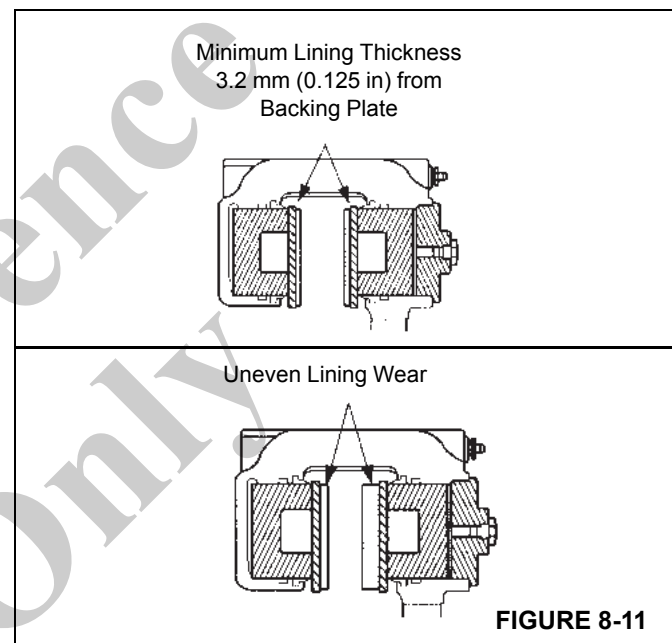

FIGURE 8-11
- Lining Wear. Replace the linings when the thickness of the lining is less than 3.2 mm (0.125 in) from the back plate (Figure 8-11).
- Lining Wear Not Even. Replace the linings if the thickness of the two linings is significantly different. Check the pistons for correct operation. Replace the piston and/or housing if a piston is cocked in the bore. Check that the disc surface is flat and parallel to the linings (Figure 8-11).